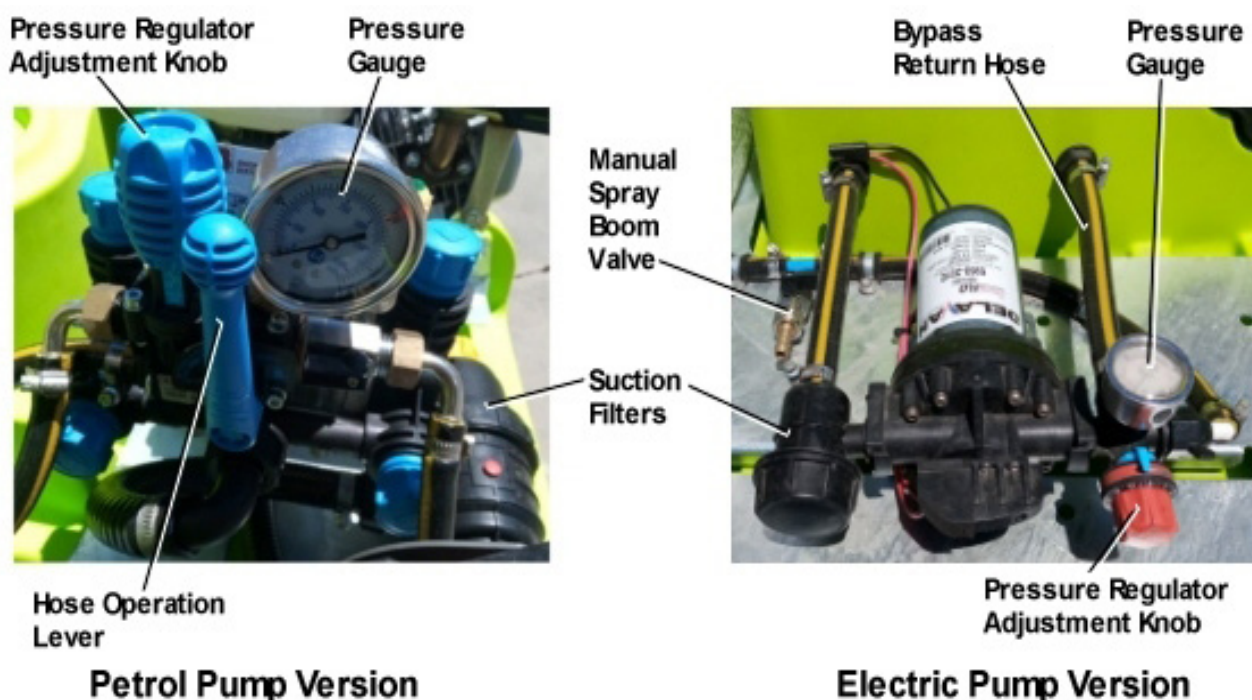

Figure 7 – Pressure Regulator
3. At the pump, check that the pressure regulator is set to the minimum position by turning the knob anti-clockwise, refer to Figure 7.